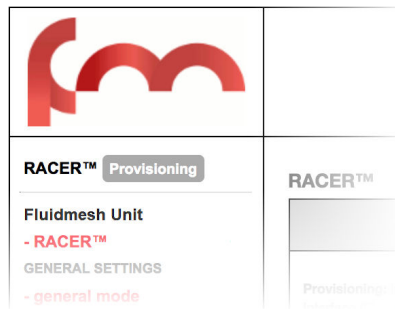

Figure 16. FM Racer status icon (Provisioning Mode)
- Check that the unit is in Provisioning Mode by looking at the colored icon to the right of the **RACER™** tag in the upper left-hand corner of the screen (Figure 16 \(page 49\)).